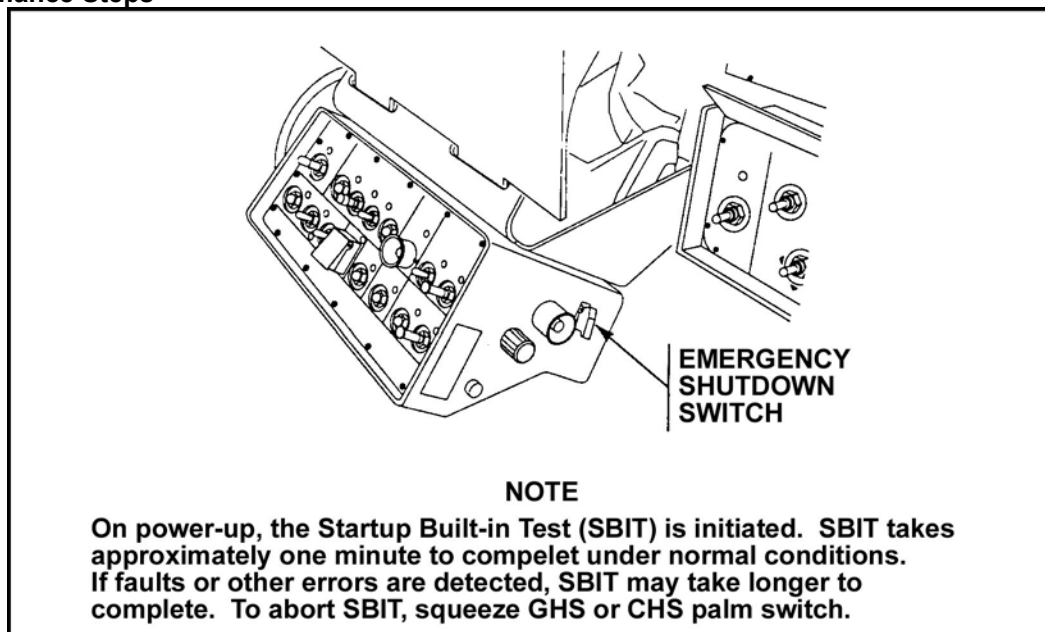

Figure 4. Emergency shutdown switch.
- (1) Press and hold the push button.
- (2) Move the gun elevation drive select lever to the right to the POWER position.
- (3) Release the push button.
- i. Ensure the emergency shutdown switch on the System Control Box (SCB) is OFF (Figure 4).